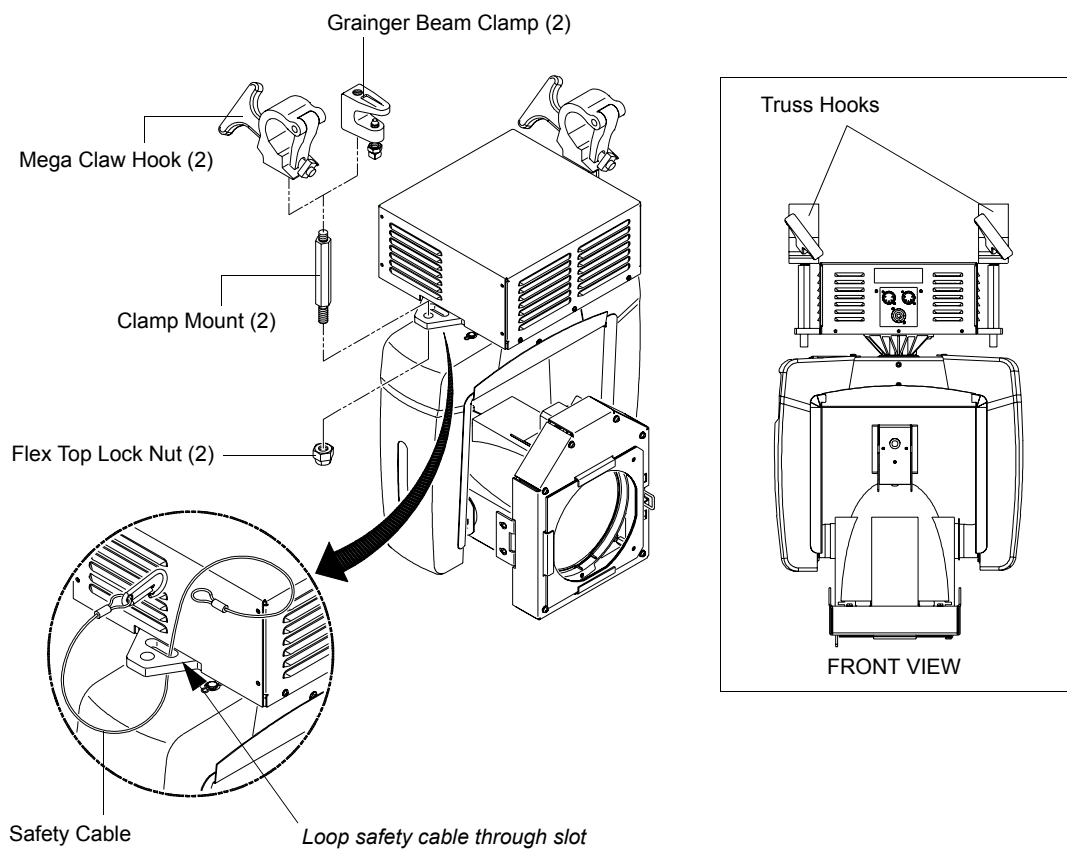

Figure 2-2: Attaching Truss Hooks and Safety Cable
- Step 1. Attach hardware and loop safety cable through mounting bracket slot (**Figure 2-2**).